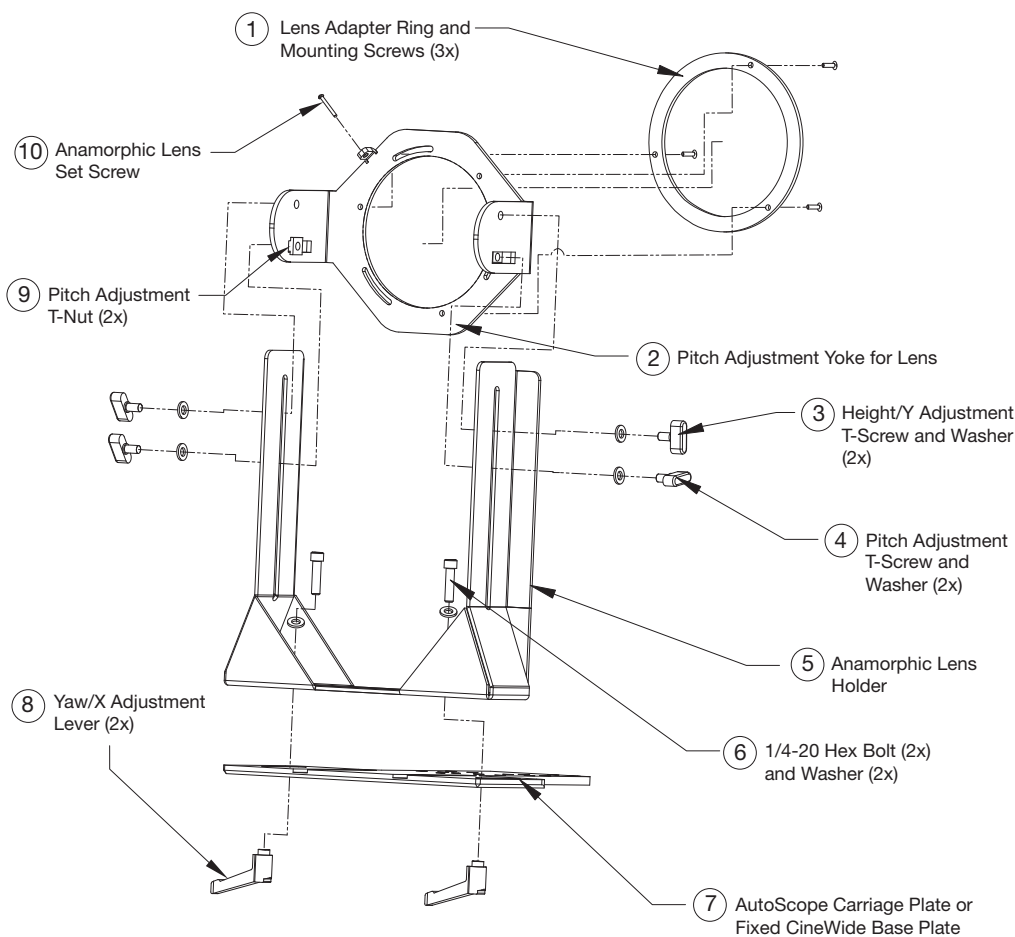

Figure 3-19. VX-22d Anamorphic Lens Mounting Assembly - Exploded View
The VX-22d Anamorphic lens mount kit consists of everything shown in Figure 3-19. Some components shipped with your projector may differ slightly from what is shown in these instructions. If any items are missing or damaged, please contact your Runco dealer or Runco Customer Service at (800) 23-RUNCO.